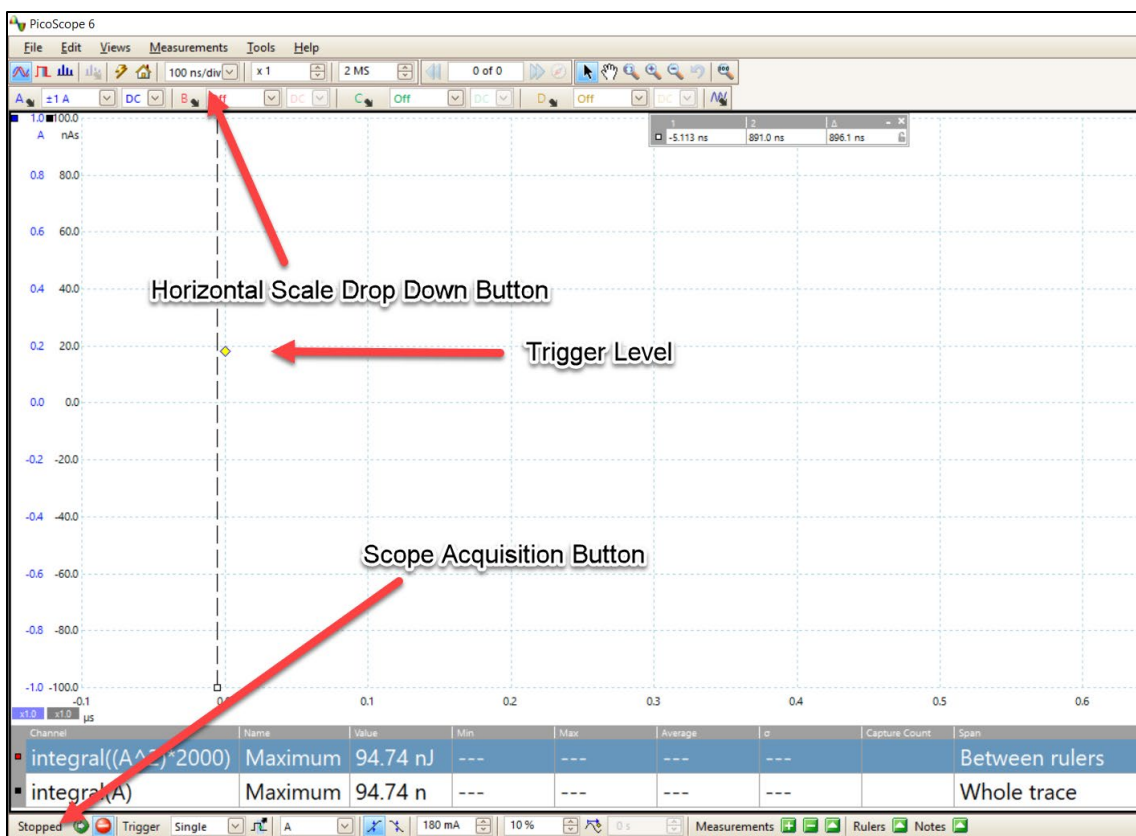

Figure 7. Screenshot of the PicoScope® 6 Software with the “Waveform Verification Setup file” open.
10. In the PicoScope® software, if needed, move the yellow trigger icon above the scope's zero line (0.2A) on the left vertical scale (Figures 7 and 8).
11. Ensure that the scope horizontal scale is set to 100 ns per division (Figures 7 and 8).
13. Click the “Stopped” button at the bottom left hand portion of the screen (PicoScope 6) or the top left hand portion of the screen (PicoScope 7) to place the scope in “acquisition” mode. The wording “Stopped” will change to “Running” (Figures 7 and 8).
9. Click the “**Stopped**” button at the bottom left hand portion of the screen to place the scope in “**acquisition**” mode. The wording “**Stopped**” will change to “**Running**” (Figures 7 and 8).